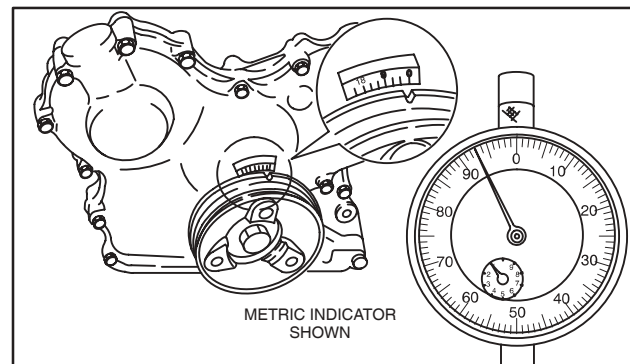

Fig. 10 – Verify Timing
- To verify that timing is correct, rotate crankshaft counter-clockwise until dial indicator reads “0.” Then rotate crankshaft clockwise until timing mark on pulley aligns with reference point on gear case cover (TDC). Indicator should be within specification, Fig. 10.